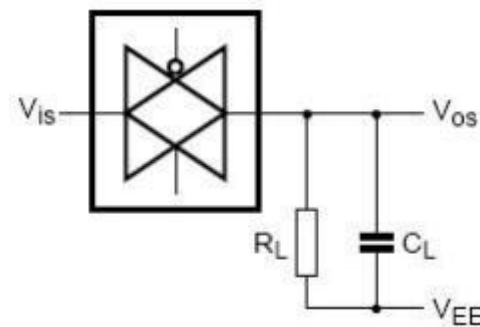

图7、方波失真度、关断频率和导通频率测试图
- 2、 $R_L = 1\text{ k}\Omega$; $C_L=5\text{pF}$, 通道关断, $20\log V_{os}/V_{is} = -50\text{dB}$, 见图7
- 3、 $R_L = 1\text{ k}\Omega$; $C_L=5\text{pF}$, 通道开, $20\log V_{os}/V_{is} = -3\text{dB}$, 见图7